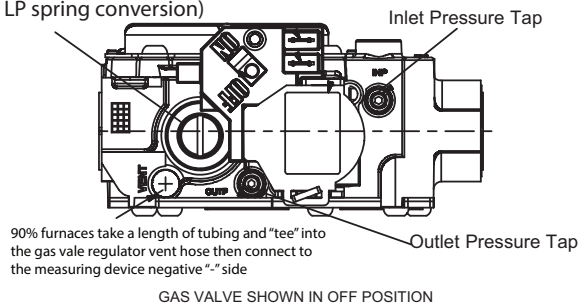

FIGURE 6
- 2 - Remove the heating compartment access panel. Turn the automatic gas valve switch to the OFF position. See figures 6, 7 and 8.
- 6 - Move gas valve switch to **OFF**. See figures 6, 7 and 8.
- 7 - Wait five (5) minutes for any gas to clear out. If you then smell gas, **STOP!** Immediately call your gas supplier from a neighbor's phone. Follow the gas supplier's instructions. If you do not smell gas, go to the next step.
- 8 - Move gas valve switch to **ON**. See figures 6, 7 and 8.
When testing supply gas pressure, use the 1/8" N.P.T. supply tap located on the gas valve to facilitate test gauge connection. See figure 6.
When testing manifold gas pressure, use the 1/8" N.P.T. plugged tap (manifold pressure outlet) located on the gas valve to facilitate test measuring device. See figures 6, 7 and 8.
- 7 - **Resideo** - Remove the negative barbed fitting as shown in figure 6 and using a screwdriver make adjustment to increase or decrease manifold pressure.